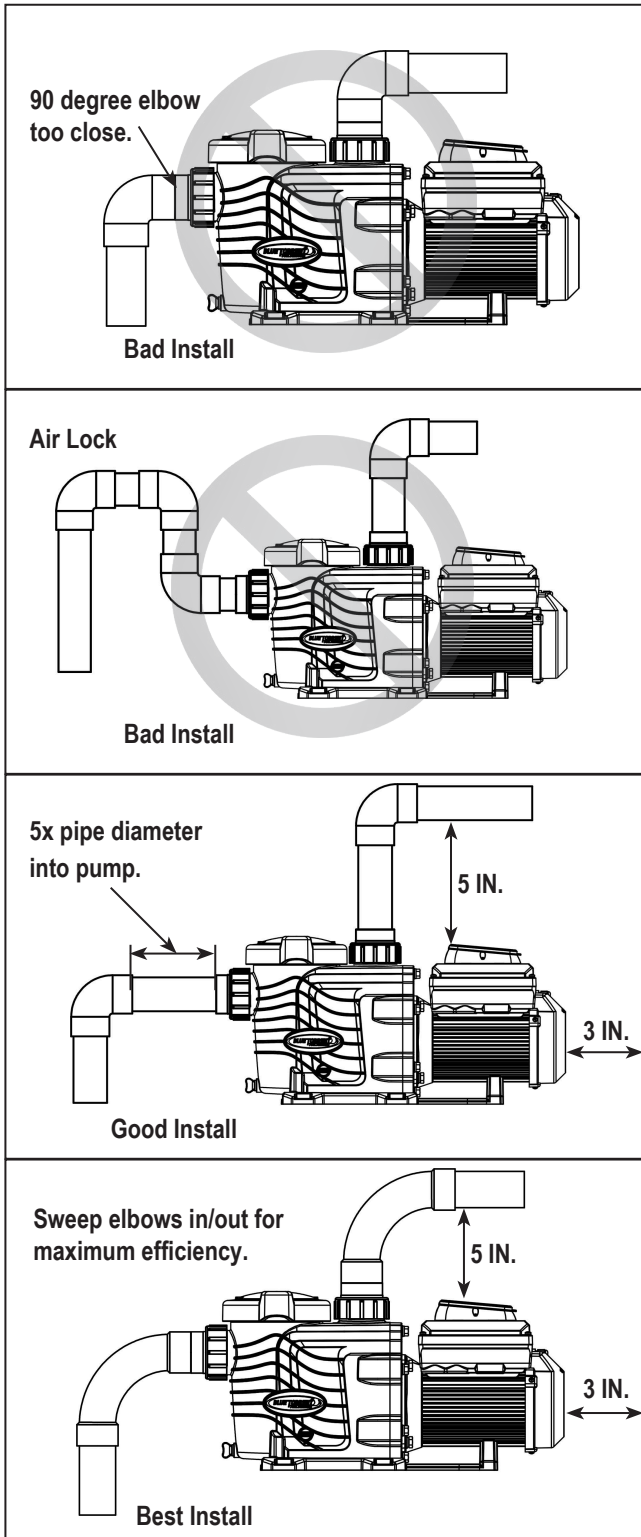

Figure 3
- Install the pump with a rear clearance of at least 3 inches (7.6 cm) so that the motor can be removed easily for maintenance and repair. See Figure 3.
- Leave a minimum of one (1) feet (30 cm) of clearance above the pump for removal of the strainer basket.
- For most installations, always install a valve on both the pump suction and return lines so that the pump can be isolated during routine maintenance. However, we also recommend that a valve, elbow, or tee installed in the suction line should be no closer to the front of the pump than five (5) times the suction line diameter. See Figure 3.